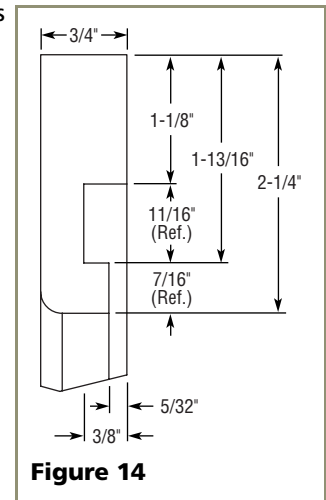

Figure 14
- Typical routing dimensions are shown in **Figure 14**.